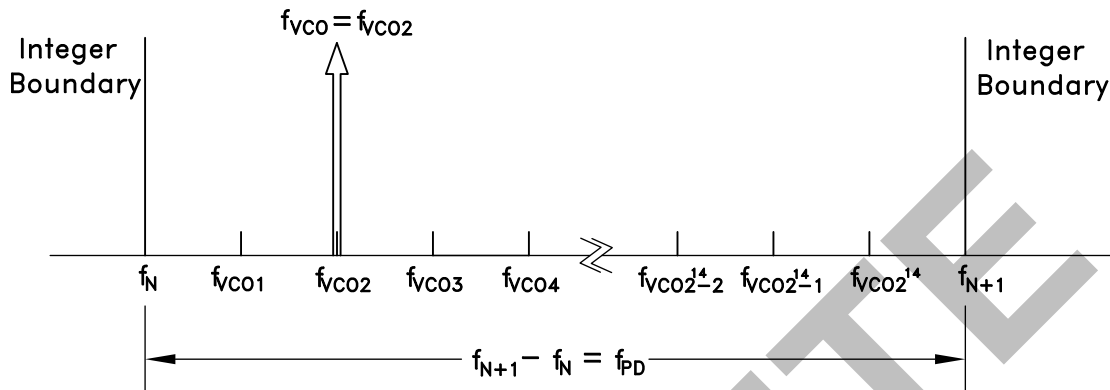

Figure 71. Exact Frequency Tuning
and fVCOk are the channel step frequencies where 0 < k < 224-1, As shown in Figure 71.
Some fractional PLLs are able to achieve this by adjusting (shortening) the length of the Phase Accumulator (the denominator or the modulus of the Delta-Sigma modulator) so that the Delta-Sigma modulator phase accumulator repeats at an exact period related to the interval frequency ( $f_{VCOk} - f_{VCO(k-1)}$ ) in Figure 71. Consequently, the shortened accumulator results in more frequent repeating patterns and as a result often leads to spurious emissions at multiples of the repeating pattern period, or at harmonic frequencies of  $f_{VCOk} - f_{VCO(k-1)}$ . For example, in some applications, these intervals might represent the spacing between radio channels, and the spurious would occur at multiples of the channel spacing.
If it is desirable to have multiple, equally spaced, exact frequency channels that fall within the same interval (ie.  $f_N \leq f_{VCO_k} < f_{N+1}$ ) where  $f_{VCO_k}$  is shown in Figure 71 and  $1 \leq k \leq 2^{24}$ , it is possible to maintain the same integer-N (Reg 03h) and exact frequency register (Reg 0Ch) settings and only update the fractional register (Reg 04h) setting. The Exact Frequency Channel Mode is possible if (EQ 16) is satisfied for at least two equally spaced adjacent frequency channels, i.e. the channel step size.
To configure the HMC1190LP6GE for Exact Frequency Channel Mode, initially and only at the beginning, integer (Reg 03h) and exact frequency (Reg 0Ch) registers need to be programmed for the smallest  $f_{VCO}$  frequency ( $f_{VCO1}$  in Figure 71), as follows:
1. Calculate and program the integer register setting Reg 03h =  $N_{INT} = \text{floor}(f_{VCO1}/f_{PD})$ , where  $f_{VCO1}$  is shown in Figure 71 and corresponds to minimum channel VCO frequency. Then the lower integer boundary frequency is given by  $f_N = N_{INT} \cdot f_{PD}$ .
$\text{Reg04h} = N_{FRAC} = \text{ceil}\left(\frac{2^{24} \left(\text{gcd}(f_{VCO_k} - f_N, f_{PD})\right)}{f_{PD}}\right)$  where  $f_N = \text{floor}(f_{VCO1}/f_{PD})$ , and  $f_{VCO1}$ , as shown in Figure 71, represents the smallest channel VCO frequency that is greater than  $f_N$ .
4. To change from channel 1 ( $f_{VCO1} = 2800.2$  MHz) to channel 2 ( $f_{VCO2} = 2800.3$  MHz), only **Reg 04h** needs to be programmed, as long as all of the desired exact frequencies  $f_{VCOk}$  (Figure 71) fall between the same integer-N boundaries ( $f_N < f_{VCOk} < f_{N+1}$ ). In that case